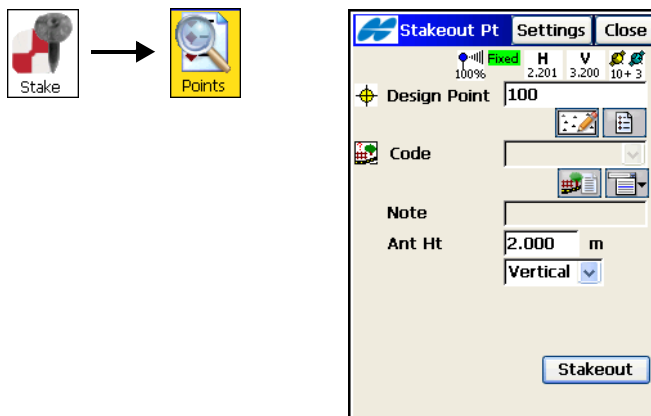

Figure 9-2. Stakeout Point
1. Tap **Stake ▶ Points** (Figure 9-2). The *Stakeout Pt* screen displays.
2. On the *Stakeout Pt* screen, tap the **Settings** button (Figure 9-2).
6. Select the design point from the list or a map, or insert the name manually. Specify the antenna parameters: the height value and type or the height of the rod, based on whether you are in GPS+ mode or TS mode. Check if the PTL Point Stakeout is performed. Tap the **Stakeout** button on the *Stakeout Point* screen (Figure 9-2 on page 9-2).